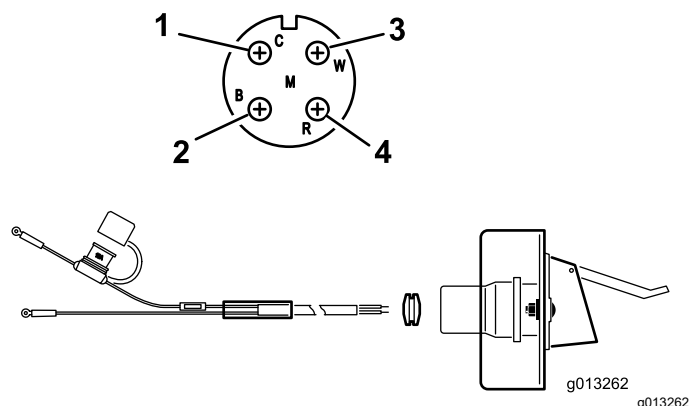

Figure 12
2. Route and secure the electrical wiring from the battery to the electrical plug bracket (Figure 12).
3. Feed the wiring through the socket bracket and install the black rubber grommet over the wiring (Figure 12).